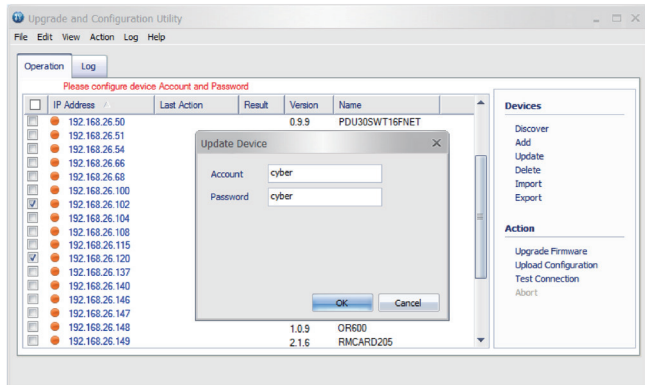

Figure 3
5. Make sure **Account** and **Password** are valid on selected devices (Shown in Figure 3).